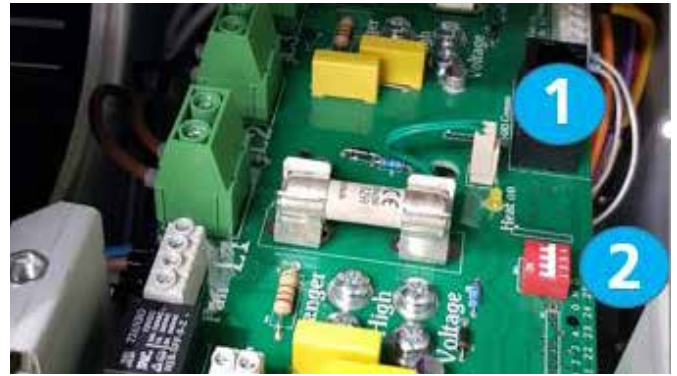

Figure 33 Control panel temperature sensor and dip switch location
4. With the control panel out of the unit disconnect the blue wire [1] from the temperature sensor, see figure 33 for the location. Unscrew the eight screws securing the control board to the heat sink and mounting plate and lift off
Set the dip switch [2] of figure 33 for the location and follow the networking address settings. For more information see page 22.